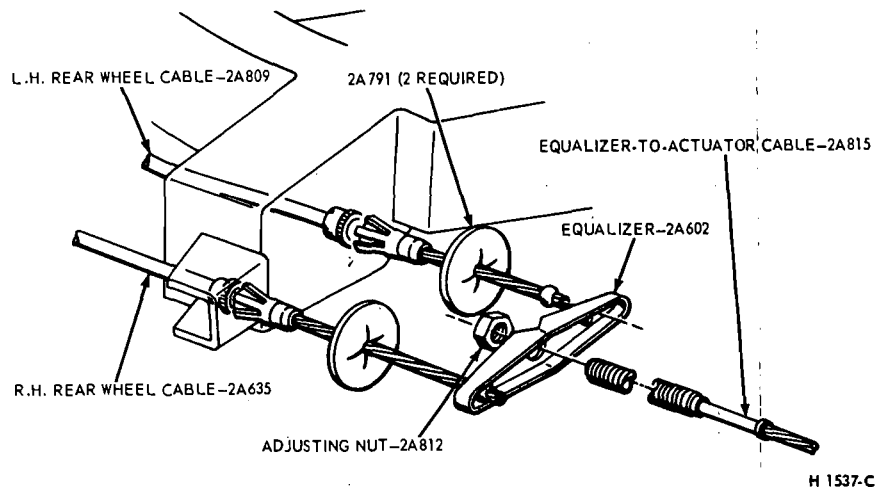

FIG. 3—Parking Brake Adjustment—Ford, Mercury, Meteor, Thunderbird and Continental Mark III
3. Raise the vehicle. With the transmission in neutral, turn the adjusting nut forward against the equalizer (Figs. 3 and 4) until there is 100